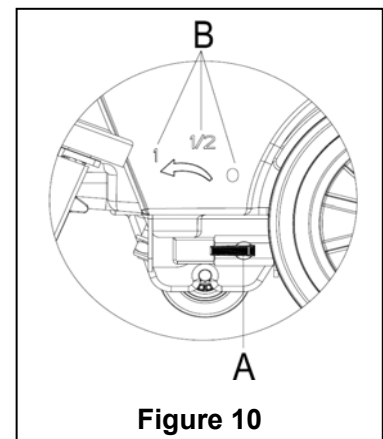

Figure 10
Regulating the ball valve handle (A, Figure 10) must be done under the condition when the power switch (41) is in the “O” position.
12. The volume of the water flow may be adjusted through the ball valve handle (A, **Figure 10**) according to the amount of water practically required for scrubbing the floor.